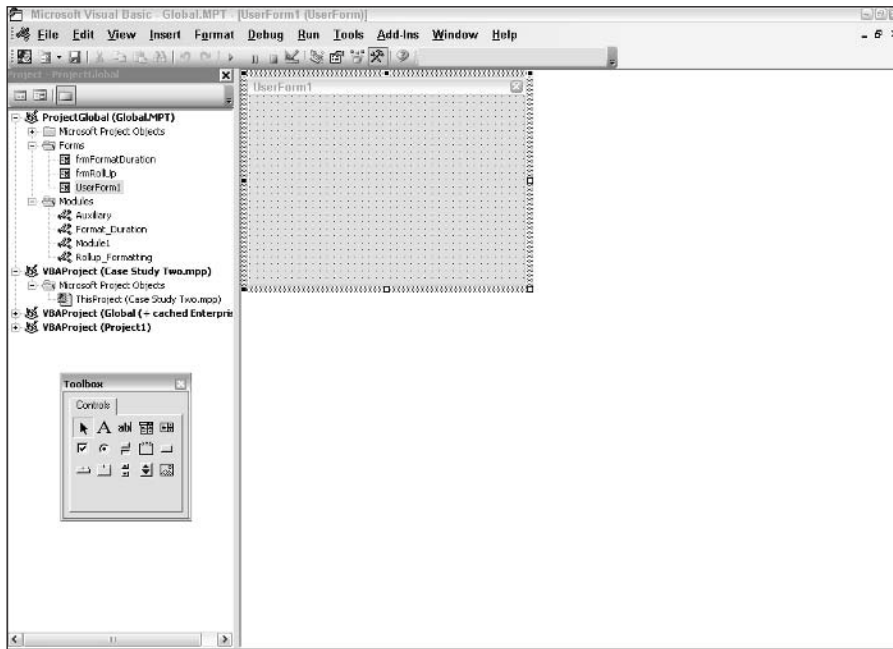

Figure 25-10: A UserForm for designing a custom dialog box.
3. Choose Insert⇨UserForm. You see a screen similar to that shown in Figure 25-10.